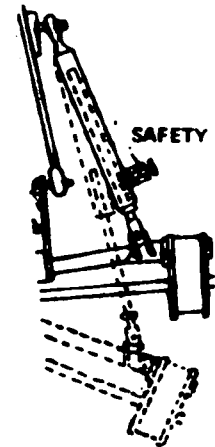

Fig. 3
- d) Tension of the safety mechanism (Fig. 3).